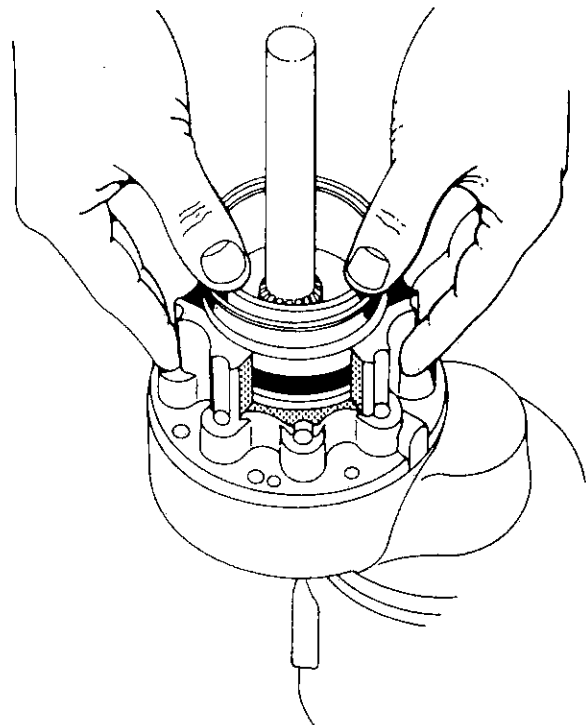

Figure 3.20
12. Install new inner (21) and outer drive housing seal (20). Install new upper drive housing seal (23).
13. Apply Lithium base grease to both faces of thrust washer (8) and place thrust washer on drive shaft assembly (28).
14. Position the drive housing (24) according to gear case pin (22), align drive shaft gear (9) teeth with rotor pinion, and push drive shaft end into gear case bearing (7). *Caution: Do not rotate drive housing during assembly as this may cut O-rings causing leakage.*
15. Install the nine drive housing screws (6) and lockwashers (5) and torque to 97 - 109 in. lbs. (11.1 to 12.3 N·m).
16. Lubricate the splines and plain end of drive shaft assembly (28) with low temperature Lubriplate grease.
17. Install a new actuator piston seal (18) on actuator (19). After seal is in place, install a new piston actuator ring (17) over piston seal. Apply a coat of low temperature Lubriplate grease to actuator ring.
18. With the actuator ring end facing the bearing retainer (14), insert the actuator piston into the drive housing (24) as far as possible. See Figure 3.20.